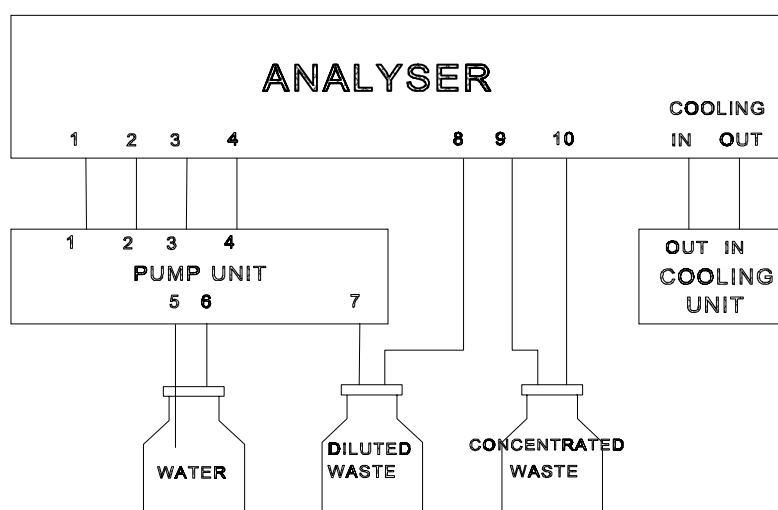

Figure 4.3 - Tubing diagram
- 9) Connect all tubing according to figure 4.3
- 12) Connect tubing between the cooling unit and analyser as shown in figure 4.3.